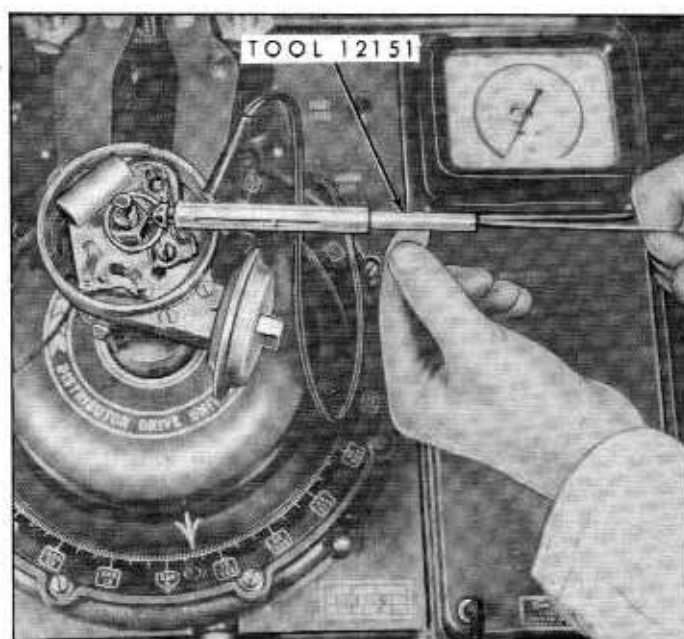

Fig. 9-54—Shaft and Bushing Wear Test—(60C-7711)
7. Pull with hook end of Spring Tension Tester (Tool 12151) until scale reads 16 ounces. Keep Spring Tension Tester at right angle to distributor shaft. See figure 9-54. Observe Dwell Meter while tension is being applied to distributor shaft. If dwell angle changes more than 3 degrees, excessive wear is indicated.